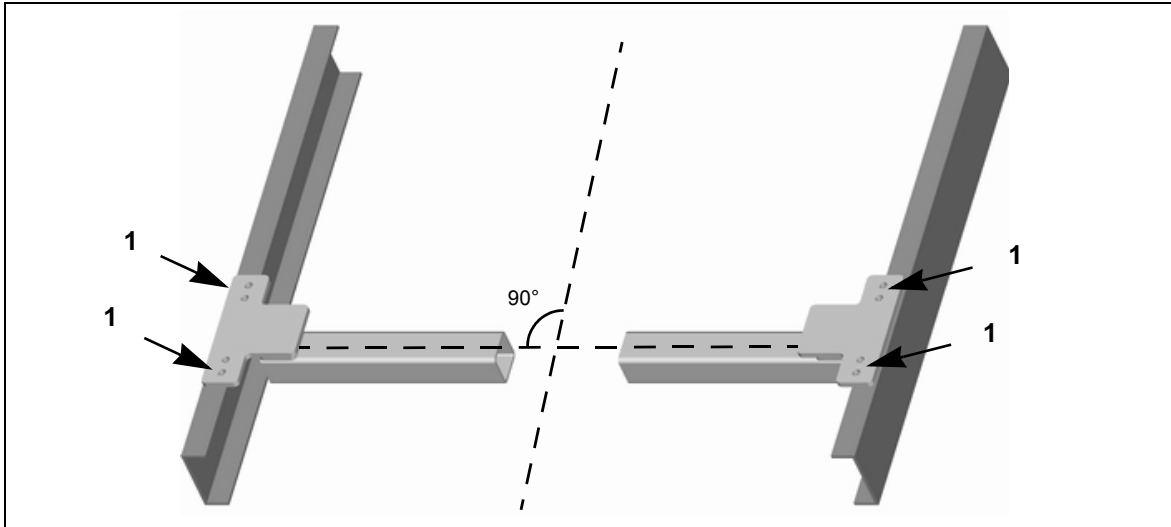

Fig. 15: Positioning the installation frame
3. Position the installation frame on the opposite side on the support construction and mark the holes (1, Fig. 15).